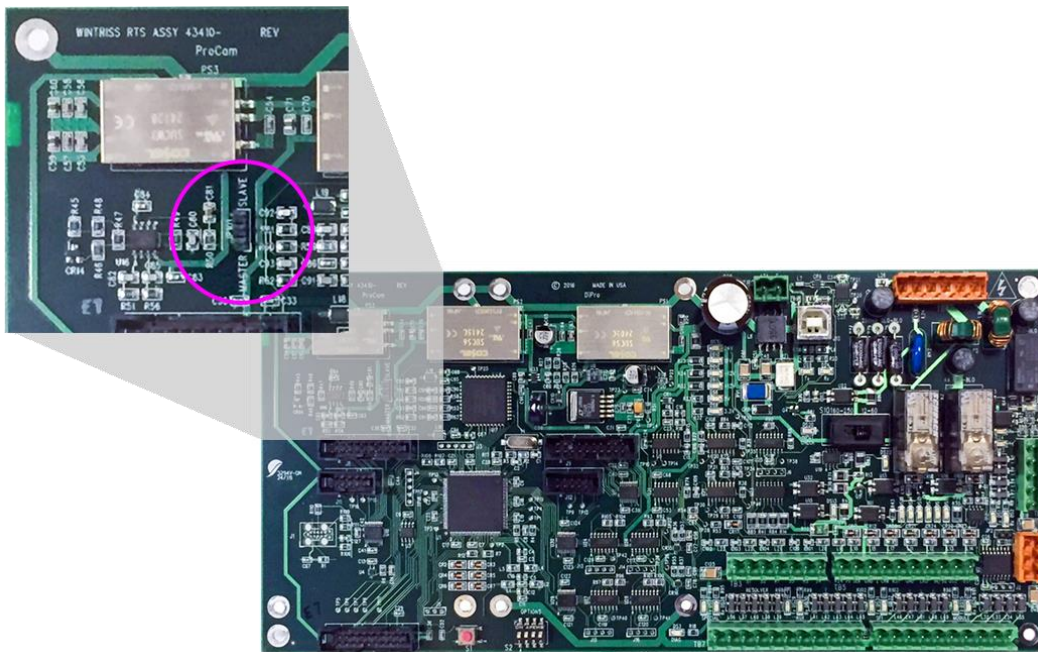

Figure 2-6. Location of the Master-Slave Jumper on SmartPAC PRO Board
6. Locate jumper JP101 on the SmartPAC PRO board (see Figure 2-6, page 34) and move it to the “Slave” position.